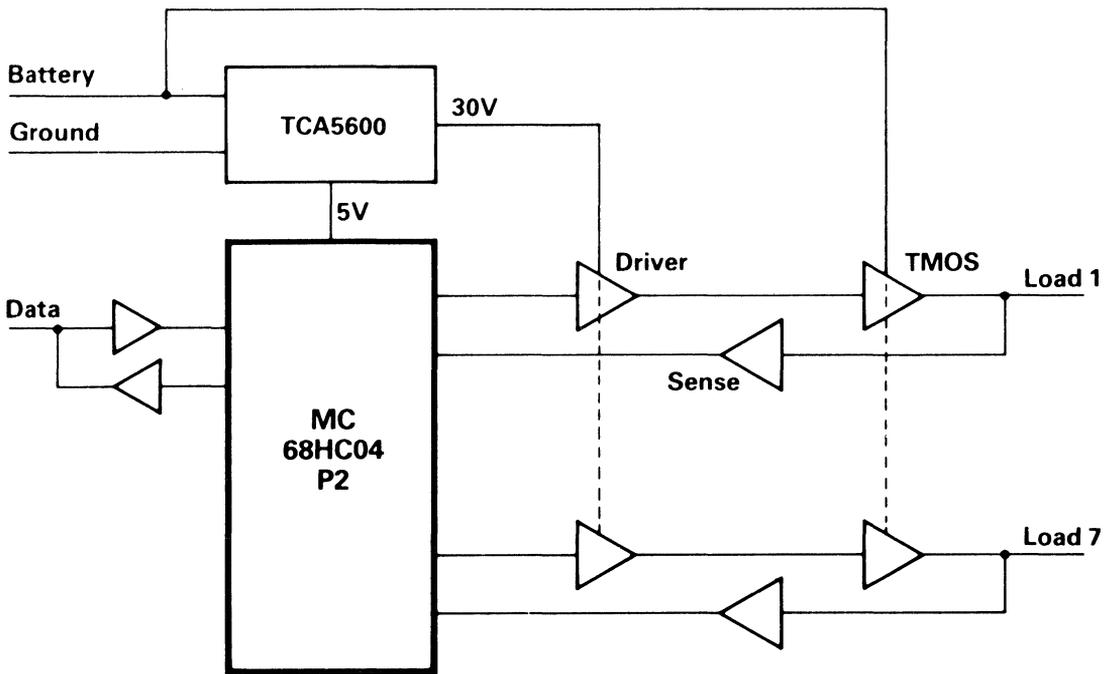

Figure 6.3. Multiplex Wiring Corner Outstation
6.2.3 Multiplex Wiring Corner Outstation (Fig. 6.3)